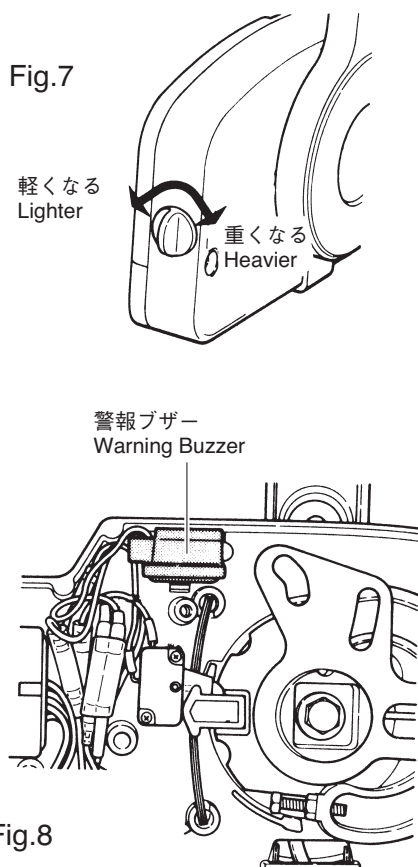

Fig.8
- (5) 警告ブザー (Fig.8)
- (5) Warning Buzzer (Fig.8)